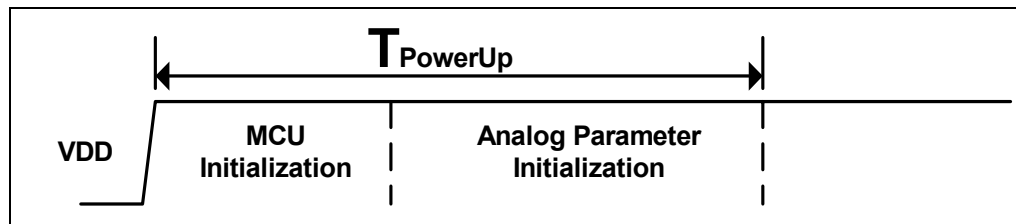

Fig. 7-1 Power-on Reset Timing Diagram
A. Power-on reset: After the touch pad is powered up, this controller will do initialization. The initialization includes MCU and analog parameter initialization. After the initial process, it will send Packet Hello to let the host know that the touch pad is ready to work. Fig. 7-1 shows the process after power up. $T_{PowerUp}$ is between 20ms and 100ms.